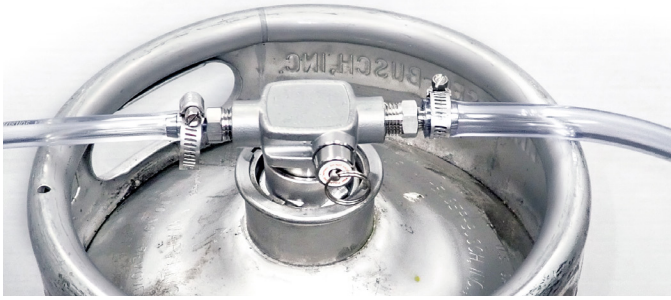

FIG. 8. Installed safety strap.
- Install the safety strap inside the cabinet. See fig. 8.